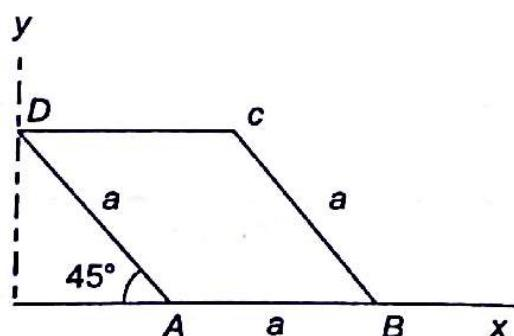

Fig. 16.4
16.3 A rhombus plate of side a mass m is made of a thin plate. What is mass moment of inertia of plate about x -axis (Fig. 16.4)?